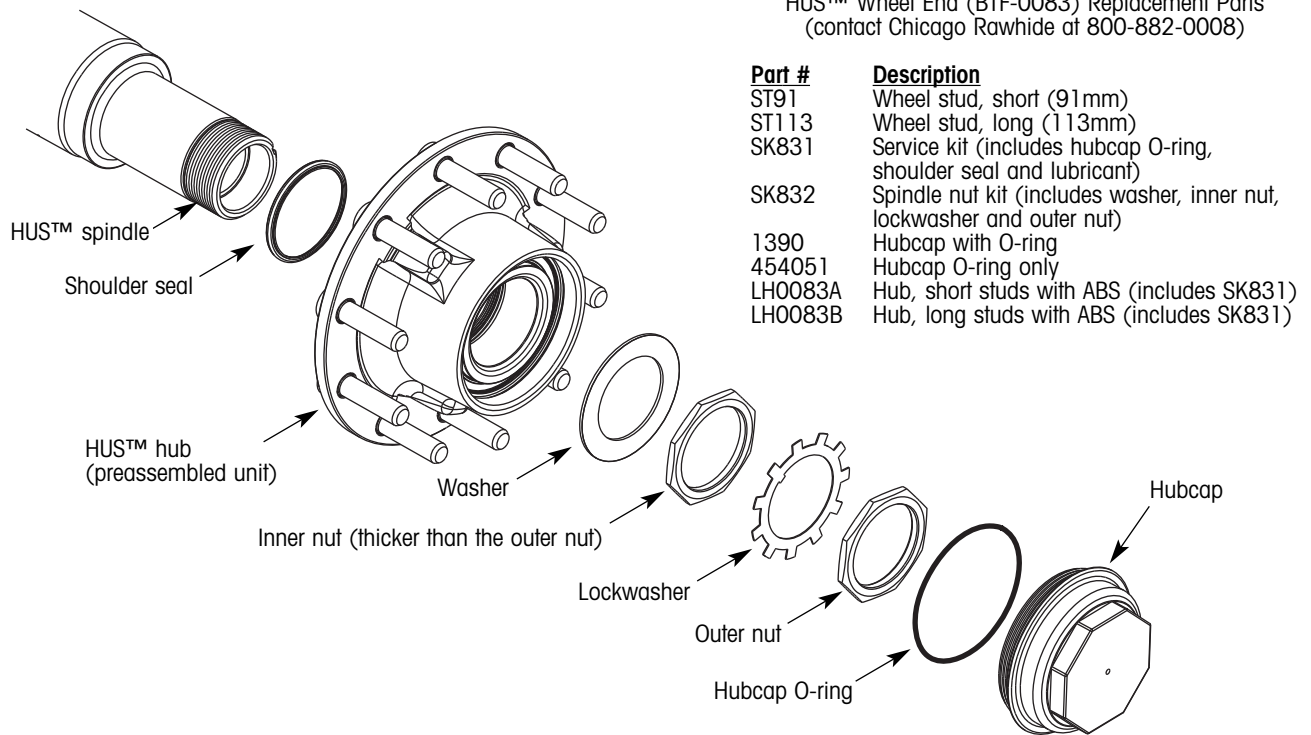

Figure 1. HUS™ wheel end parts identification
The HUS™ hub (figure 1) is a permanently sealed and lubricated assembly designed to help reduce wheel-end maintenance.
6. Remove the outer spindle nut, lockwasher, inner spindle nut and washer (all items can be seen in figure 1). Use care when removing the inner spindle nut to prevent damage to the hub outer seal.